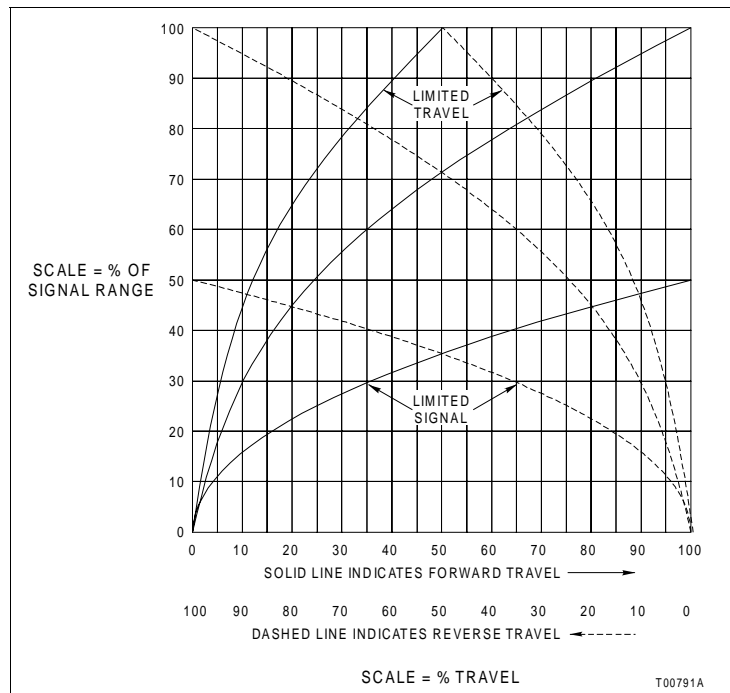

Figure C-1. Cam A, Square Root Relationship
The control characteristics for which the cams are shaped are listed in Table 3-1 and are shown in Figures C-1, C-2, and C-3. The figures show a family of curves for each cam whose boundaries are established by a span adjustment. Table C-1 lists control signal pressures of specific Type AV3 positioners which corresponds to the signal span percent values in Figures C-1, C-2 and C-3. Table C-1 shows the relationship between input current to output for the servo assembly.
4. Compare the curve plotted in Step 3 with the cam curves shown in Figures C-1, C-2 and C-3. Select a standard cam shape (in this case a C cam) whose characteristic most closely matches the control signal versus piston (or valve) characteristic plotted in Step 3.
NOTE: Before cutting any cam, make sure that shaping will involve removal of cam material and not build up of cam material. For example if the characteristic plotted lies between the A and B cams (Figs. C-1 and C-2), cut the A away.